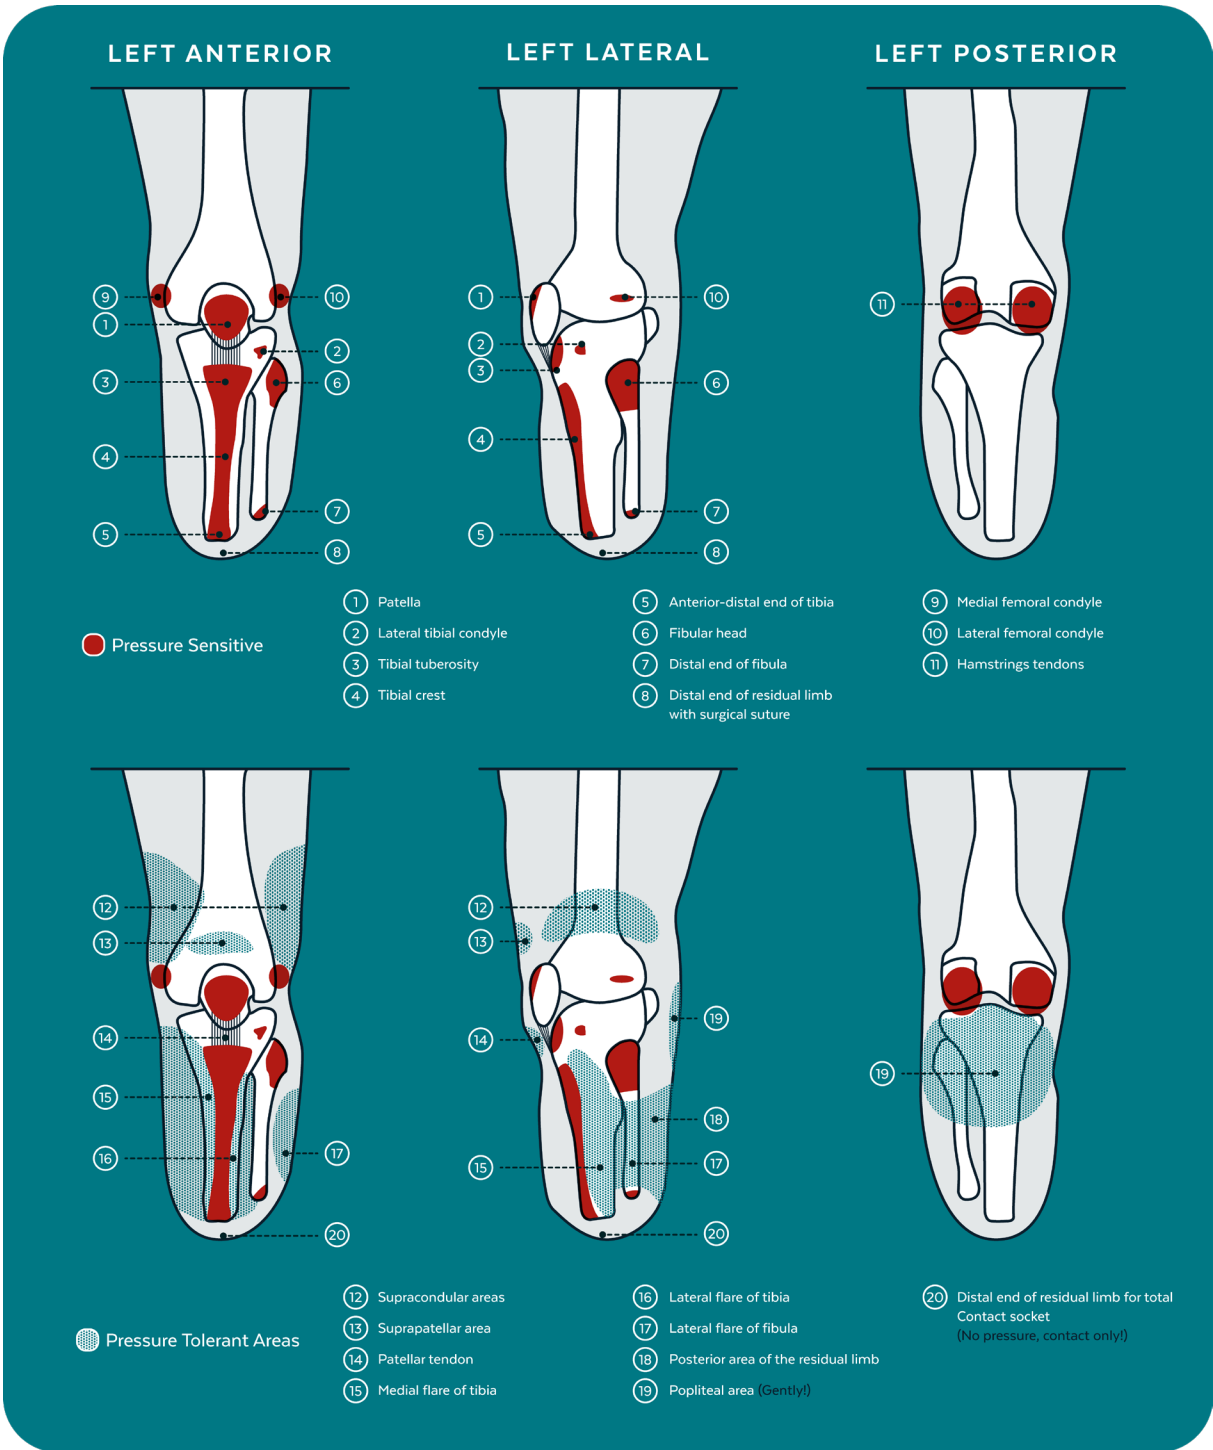

Figure 1: Visuals of pressure tolerant and intolerant areas on a below-knee residual limb.
- If appropriate pressures are being applied in pressure tolerant areas (Figure 1);